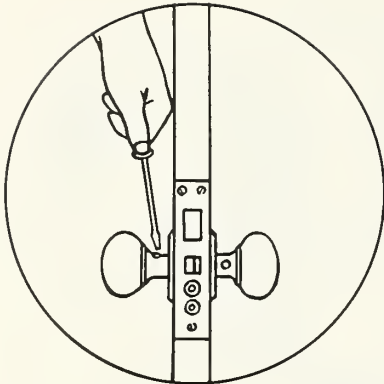
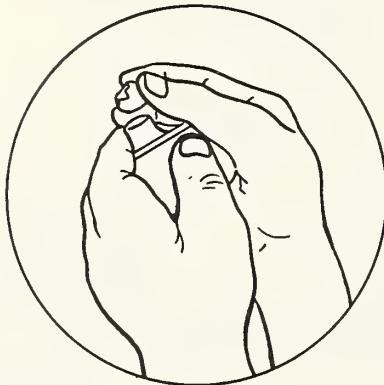

Fig. 3
Fig. 4
3. To stop the rattle in the knob, loosen the set-screw on the knob. (Fig. 3) Remove the knob. Put a small piece of putty or modeling clay in the knob. (Fig. 4) Put the knob back on. Push it on as far as possible. Tighten the screw.